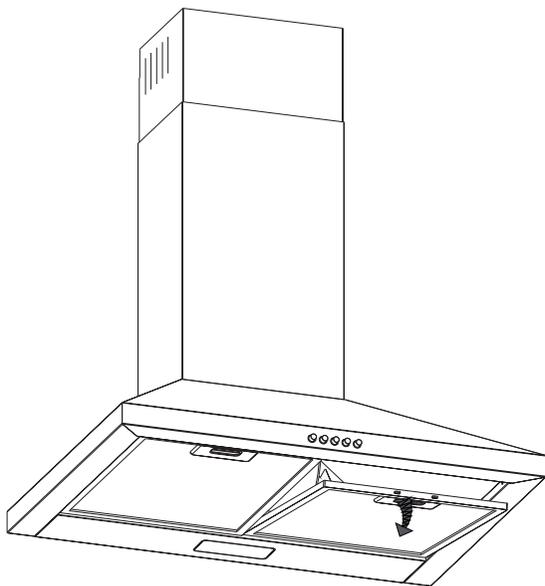

Fig.11
- Removing the filters according to Fig.11.